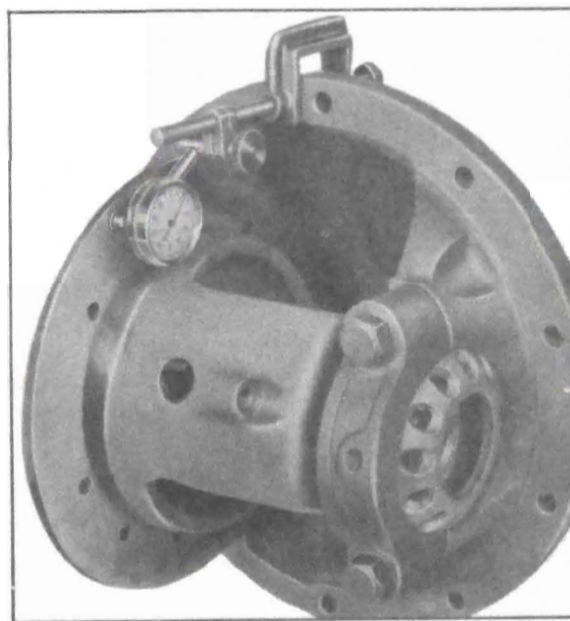

Figure 6-11—Checking Run-out of Differential Case Flange
3. Mount case in differential carrier with a dial indicator set to check run-out of machined flange surface as shown in figure 6-11. If run-out exceeds .002", the flange must be trued up to not over .002" run-out.